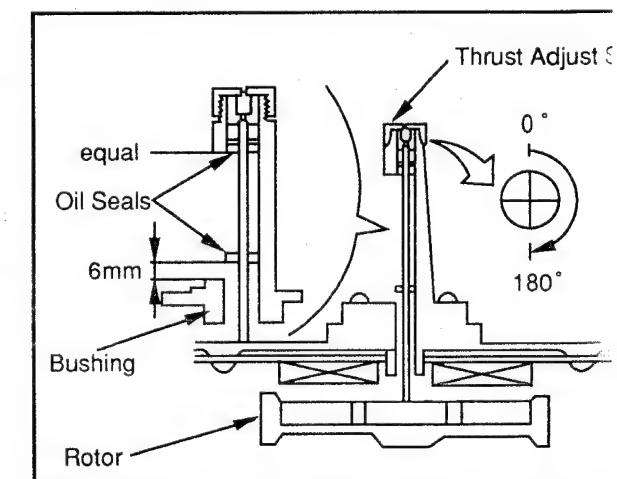

Fig. M21
9. Re-install the Capstan Motor Drive C.B.A. by tightening 2 Screws (D). Then carefully solder P2502 and re-install the Motor Block Ass'y.
12. Upon completion of the above procedure, confirm that the Oil Seals are positioned as shown in Fig. M21 and ensure that the oil seal does not contact the Pressure Roller or P5 Arm Unit. Then, wipe off the Capstan Shaft to remove oil, grease, and dust.
1. During production, the Lower Oil Seal is positioned 6mm above the bushing as shown in Fig. M21. During servicing, the seal should be either 6mm or just above the bushing.